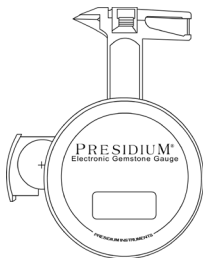

Fig. 1.1
2. Place a CR 2032 3V battery with the (+) sign facing upward in the battery compartment and close by pushing the battery slider sideway inward (**Fig. 1.1**).